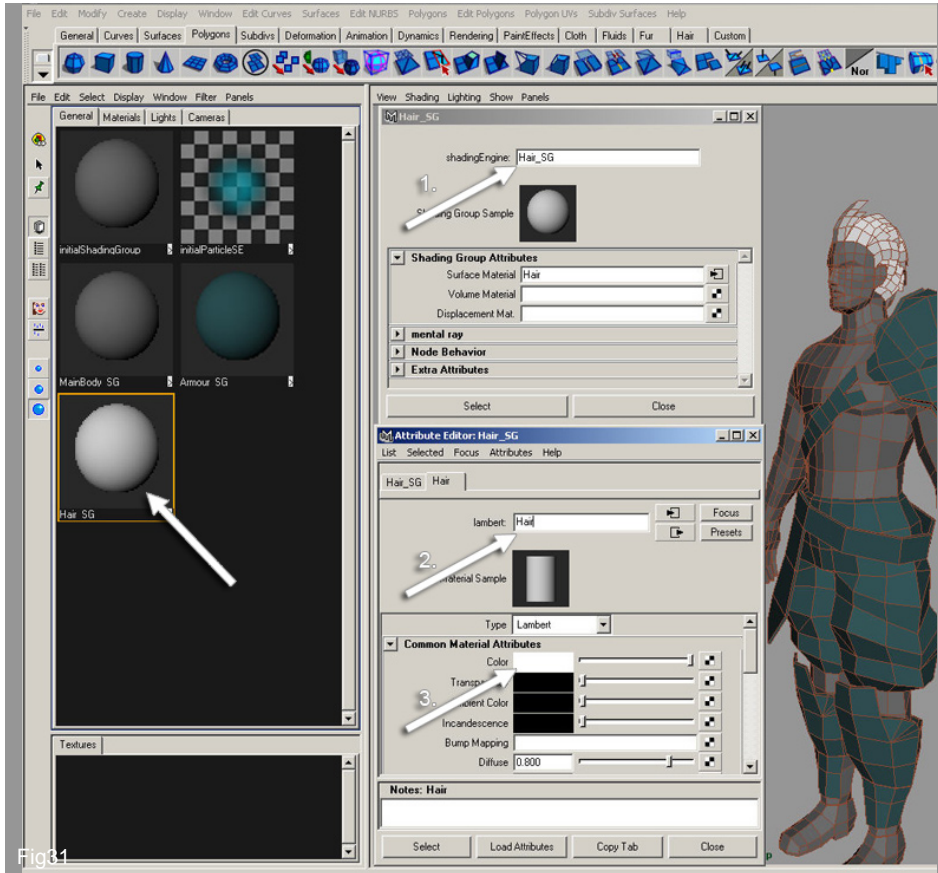

Fig31
31. It is very important to name materials in a correct way because this way each person who will ever look over the scene will easily understand what's happened, and also it is clear to which part of the object will assign a particular texture. In Fig 31 is shown 3 steps to rename the "Shading Groups", by using "name\_SG" step 1 In our case is "Hair\_SG". Name the material "name" without using any suffix in our case just simple "Hair", step 2. And choosing colour by clicking directly on the colour. That's it.